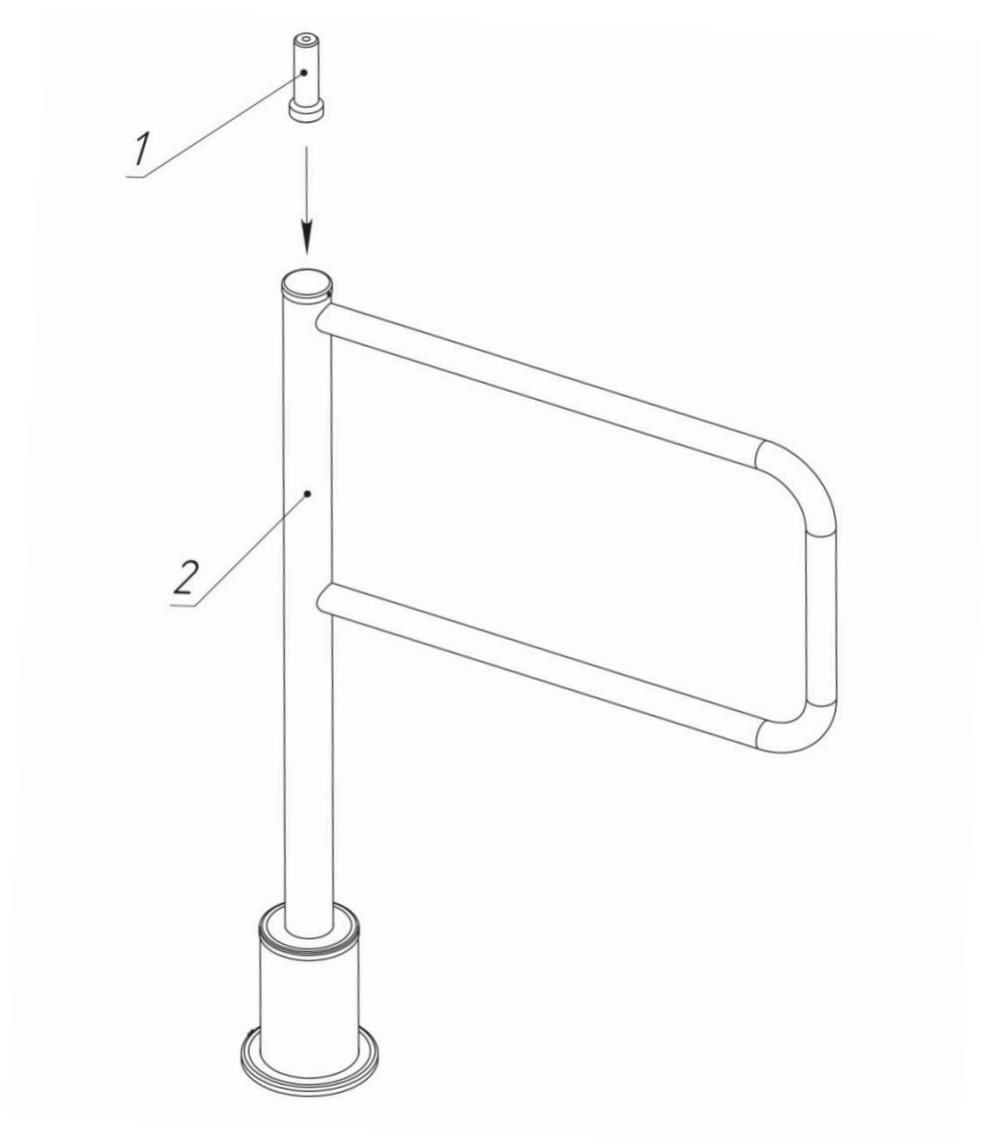

Fig. 6 Unlocking the gate
7.2.8. Check the free rotation of the gate arm. To do this, unlock the gate with the magnetic key as shown in Fig. 6. The arm should be rotated in both directions.
The gate is opened with control button. When the button is pressed the arm of the gate opens passage in the set direction (depending on the variant). In order to unlock the arm put the magnetic key (1, fig. 6) on the top of the stand (2, Fig. 6) as shown on the picture and manually rotate the arm to the initial central position (“closed”).